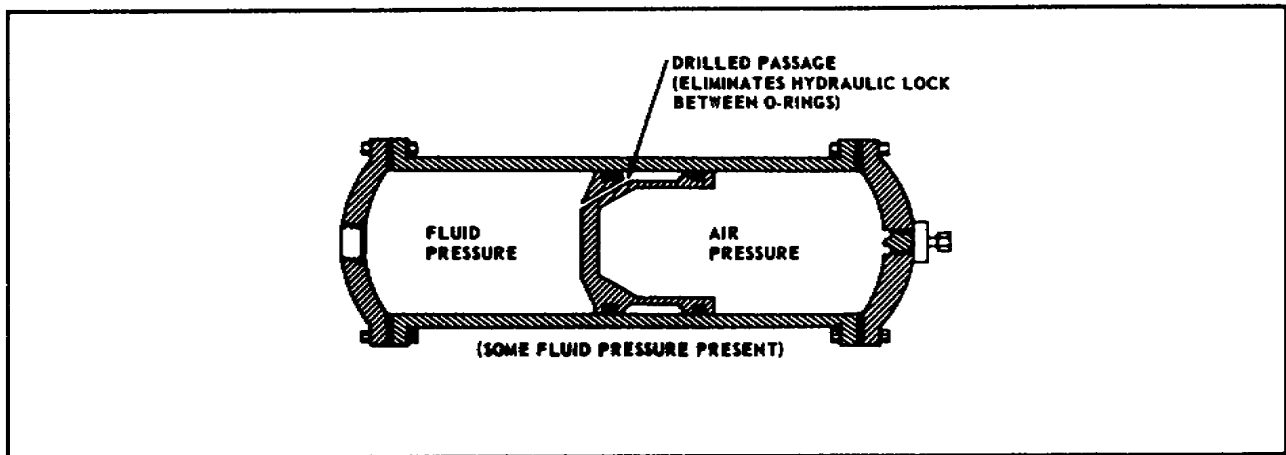

Figure 1-12. Piston Accumulator.
**Piston Accumulator.** The piston accumulator serves the same purpose and operates by the same principles as do the diaphragm and bladder accumulators. As shown in Figure 1-12, the unit consists of a cylinder and piston assembly with ports on each end. Fluid pressure from the system enters the left port, forcing the piston down against the initial air charge in the right chamber of the cylinder. A high-pressure air valve is located at the right port for charging the unit. A drilled passage from the fluid side of the piston to the outside of the piston provides lubrication between the cylinder walls and the piston.